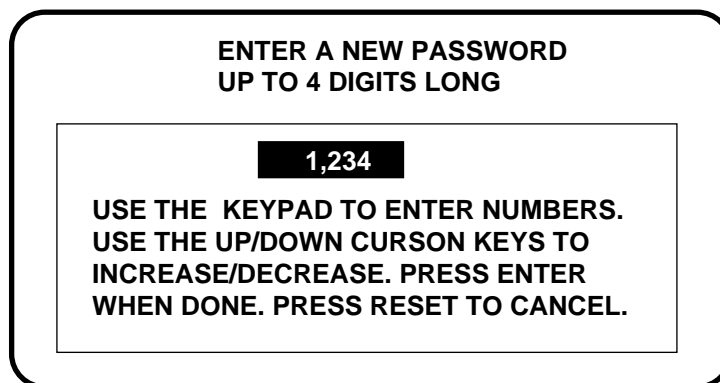

Figure 4-33. "Enter a new password" screen
4. Highlight the password you want to change. Press ENTER. The display looks like Figure 4-33.